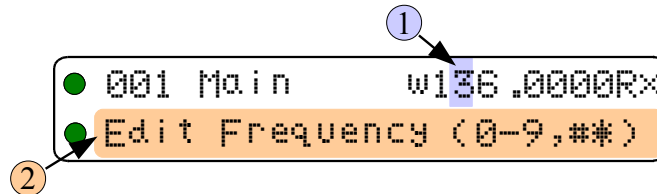

Figure 2-1. The user screen to edit the Main frequency
Example: The edit frequency command, figure 2-1 shows the edit frequency screen if the active memory is 001 on Main. Note that a cursor flashes on the second character in the frequency field ①, on the Main display (top row) and that the Guard Display (bottom row) has been changed to a prompt line ②. This prompt provides the user with information such as what command is running, and what keys are valid.